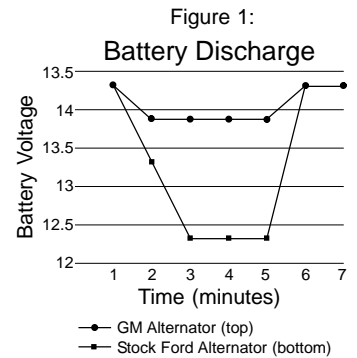

Figure 2
To do the alternator swap, I used a kit supplied by M.A.D. Enterprises (P.O. Box 675, Springville, CA, (559) 539-7128). I performed this swap on my '68 302 car, but the same kit and procedure should apply to any Cougar model year/engine combination from '67 to '73. In hotrodding circles, putting the Delco-Remy (GM) alternator on Ford products has become a popular enough trick to provide a market for a kit with all the goodies ready-to-go, and M.A.D. did the engineering work and filled the economic niche. Figure 2 shows what you get for your \$29. The materials supplied include wires, fusible links, crimp-on connectors, heat shrink tubing and a diode that